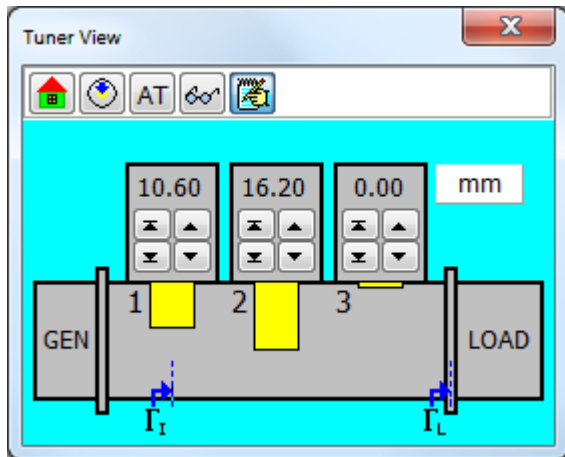

Figure 31. Tuner View window.
**Tuner View** window (Figure 31) enables visual, mouse-based Tuner control and monitoring. The window can be opened by clicking **Tuner|View** menu item or  button. If you wish to change the background color, right-click the background.
If the load reference plane is shifted, the symbol  $\Gamma_L$  in Tuner View window and the associated angled arrow are shifted either to the right (if the extension is positive) or to the left (if the extension is negative) from the default location shown in Figure 31.